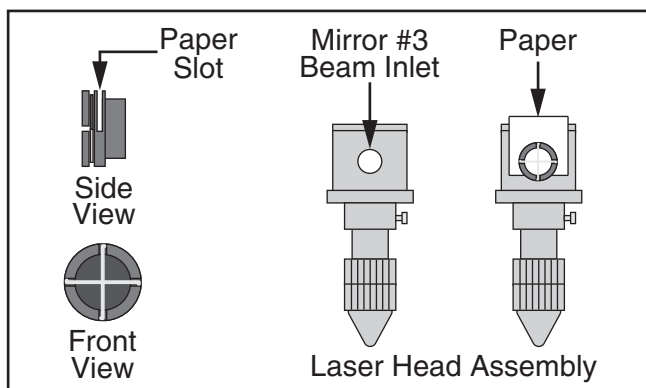

Figure 107. Laser beam alignment gauge installed in beam inlet.
12. Insert 1" piece of paper or manila folder into small slot on laser beam alignment gauge behind wire crosshairs, and install gauge in beam inlet on laser head assembly (see **Figure 107**).